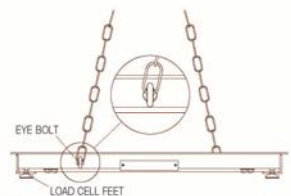

Figure 1. Hoisting Method.
2. Install the two included eye bolts into opposing sides of the floor scale, see Figure 1.